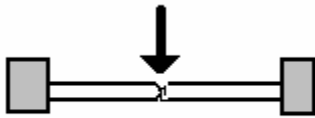

Fig. 1-4. TOP VIEW OF A CENTER-OPENING DOOR. ARROW INDICATES WHERE TOOL SHOULD BE APPLIED.
- Don't confuse a two-speed side sliding door with a center opening door. The surfaces of the center opening doors are flush with each other. When forcing a two-speed side sliding door apply force at the doorjamb. (See Figures 1-4 and 1-5)